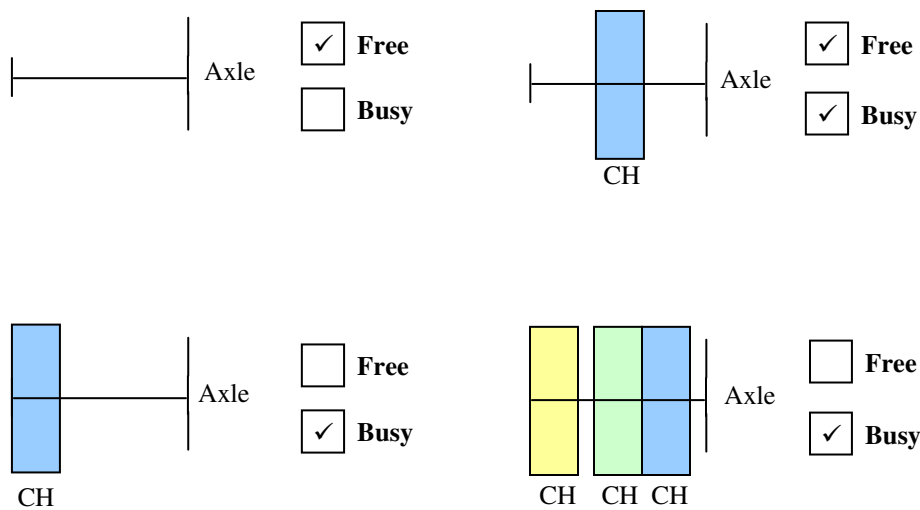

*Figure 4.* Example of free and busy spot – like connectors.
- **Point – like connectors state.** A point – like connector will be consider free connector if has no connector connected and will be consider busy connector i has a connector assembled to it ( see *Figure 4* ). So when a spot – like connector is on a busy state, it can't be consider like a free connector and other way round.